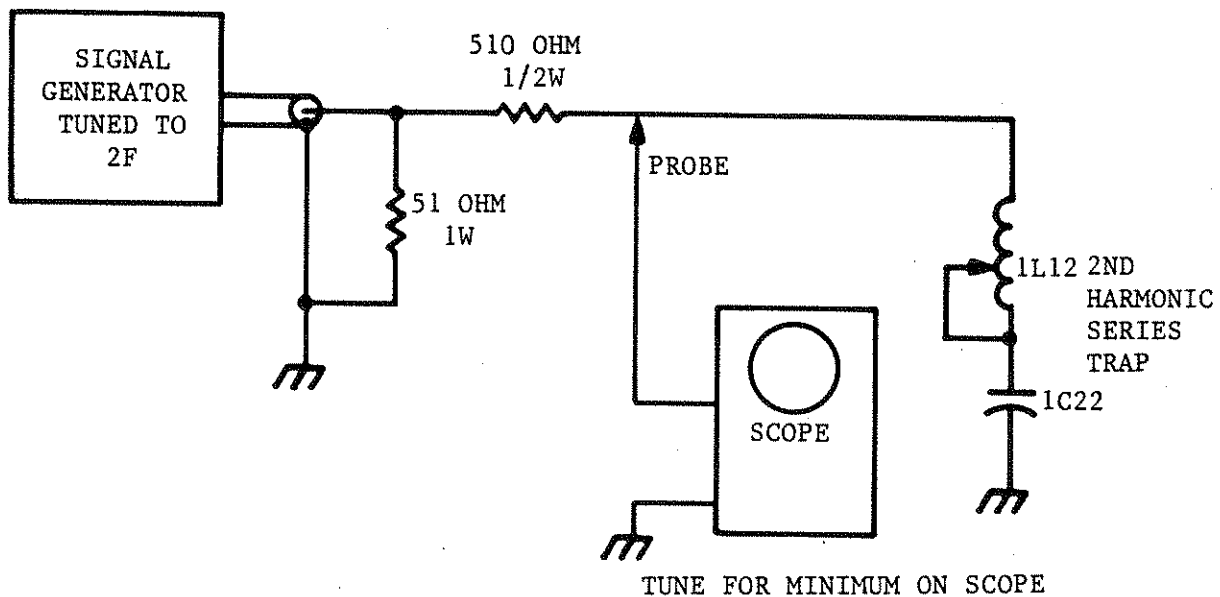

Figure 5-1. Set-Up for 1L12 Test
- c. Connect the signal generator, tuned to twice the operating frequency, and the oscilloscope as shown in figure 5-1.